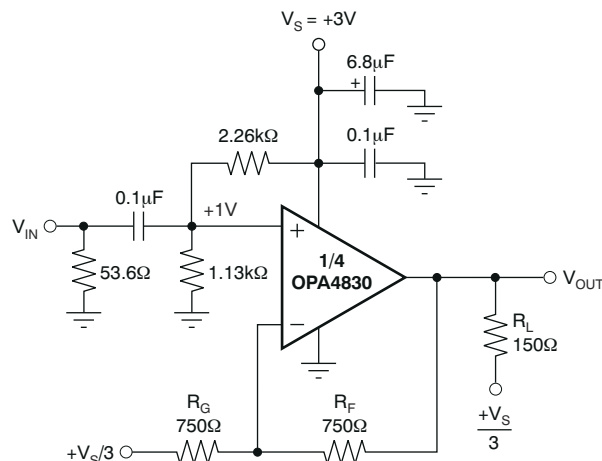
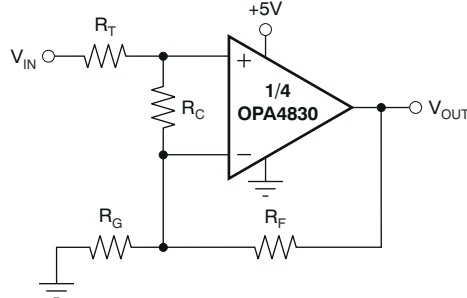

Figure 8-2. AC-Coupled, $G = +2V/V$, $+3V$ Single-Supply Specification and Test Circuit
Figure 8-7. Compensated Noninverting Amplifier
at $T_A = 25^\circ\text{C}$, $G = +2V/V$, and $R_L = 150\Omega$ to $V_S/3$ (unless otherwise noted); see also Figure 8-2
Figure 8-2 shows the ac-coupled, gain of $+2V/V$ configuration used for the $+3V$ electrical and typical characteristics. For test purposes, the input impedance is set to 50Ω with a resistor to ground. Voltage swings reported in the *Electrical Characteristics* $V_S = 3V$ are taken directly at the input and output pins. For the circuit of Figure 8-2, the total effective load on the output at high frequencies is $150\Omega \parallel 1500\Omega$. The $1.13k\Omega$ and $2.26k\Omega$ resistors at the noninverting input provide the common-mode bias voltage. The parallel combination equals the dc resistance at the inverting input (R_F), reducing the dc output offset as a result of input bias current.
Figure 8-7 shows a noninverting amplifier that reduces peaking at low gains. The resistor R_C compensates the OPA4830 to have higher noise gain (NG), which reduces the ac response peaking (typically 5dB at $G = +1V/V$ without R_C) without changing the dc gain. V_{IN} needs to be a low-impedance source, such as an op amp. The resistor values are low to reduce noise. Using both R_T and R_F helps minimize the impact of parasitic impedance.
Frequency response in a gain of $+2V/V$ can be modified to achieve exceptional flatness simply by increasing the noise gain to $3V/V$. One way to do this, without affecting the $+2V/V$ signal gain, is to add a $2.55k\Omega$ resistor across the two inputs (see Figure 8-7). A similar technique can be used to reduce peaking in unity-gain (voltage follower) applications. For example, by using a 750Ω feedback resistor along with a 750Ω resistor across the two op amp inputs, the voltage follower response is similar to the gain of $+2V/V$ response of Figure 8-2. Further reducing the value of the resistor across the op amp inputs further dampens the frequency response because of increased noise gain. The OPA4830 exhibits minimal bandwidth reduction going to single-supply ($+5V$) operation as compared with $\pm 5V$. This minimal reduction is because the internal bias control circuitry retains nearly constant quiescent current as the total supply voltage between the supply pins changes.
The criterion for setting this R_S resistor is a maximum bandwidth, flat frequency response at the load. For a gain of +2, the frequency response at the output pin is already slightly peaked without the capacitive load, requiring relatively high values of R_S to flatten the response at the load. Increasing the noise gain also reduces the peaking (see Figure 8-7).